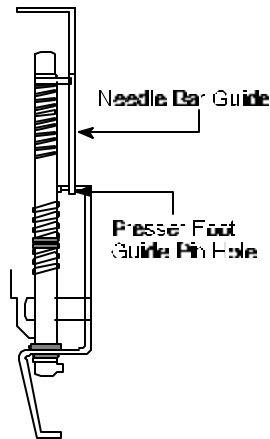

Figure 6
19. **Press** Needle Bar and Presser Foot together making sure Needle Bar guide pin lines up with Presser Foot guide pin hole. See Figure 6.